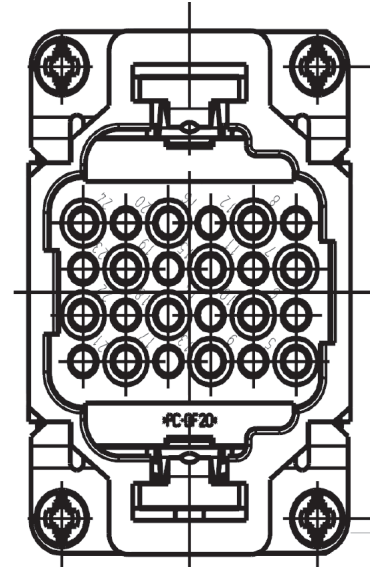

Fig. 3.19 Wiring of the valve, pressure switch and power supply customer interface
- Valve, fan and pressure switch interface, see fig. 3.19